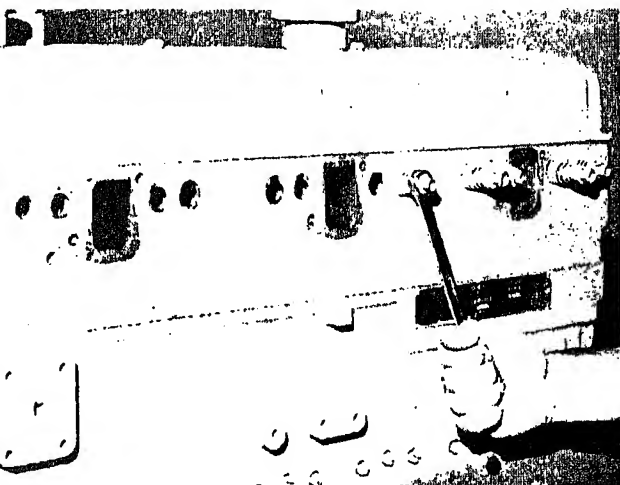

Fig. 0-21. Loosening fuel inlet and drain connections
1. Place wrench on nut closest to spring and screw out of injector; repeat this procedure until all connections are loose, Fig. 0-21.